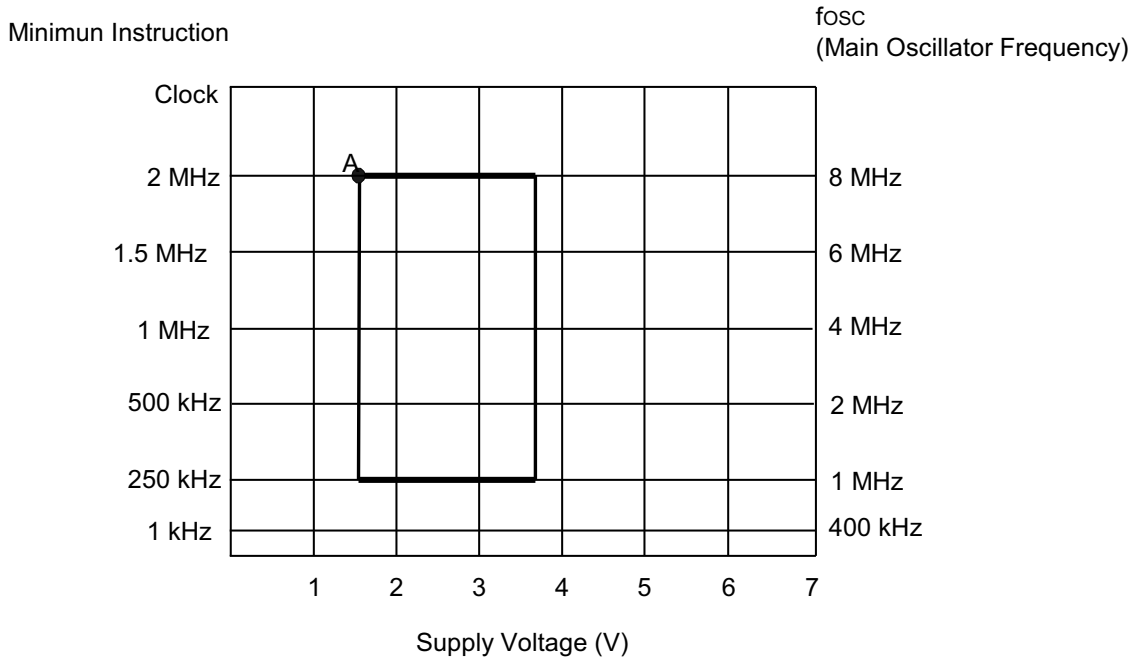

Figure 97. Operating Voltage Range
► **Note:** In Figure 97, the minimum instruction clock = $1/4n \times$ oscillator frequency, in which $n = 1, 2, 8,$ or 16 ; A = 1.65V at 8MHz.